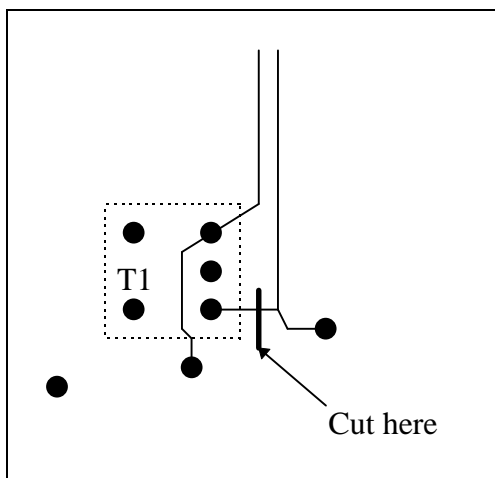

Figure 7 - RMIC RS-232 Receive Mod (PWB bottom)
2. On the bottom of the board, the solder run to T1-6 was cut as shown in Figure 7.